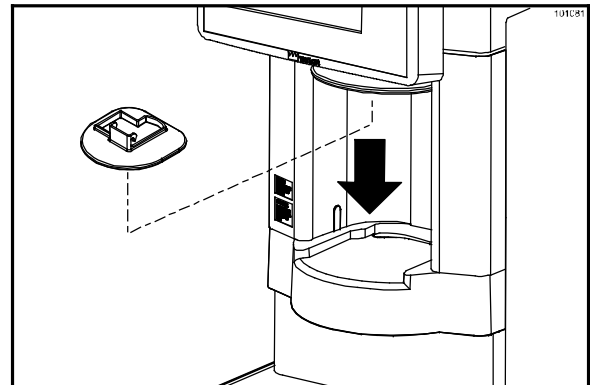

Figure 140
- Remove the splash guard. (See Figure 140.)